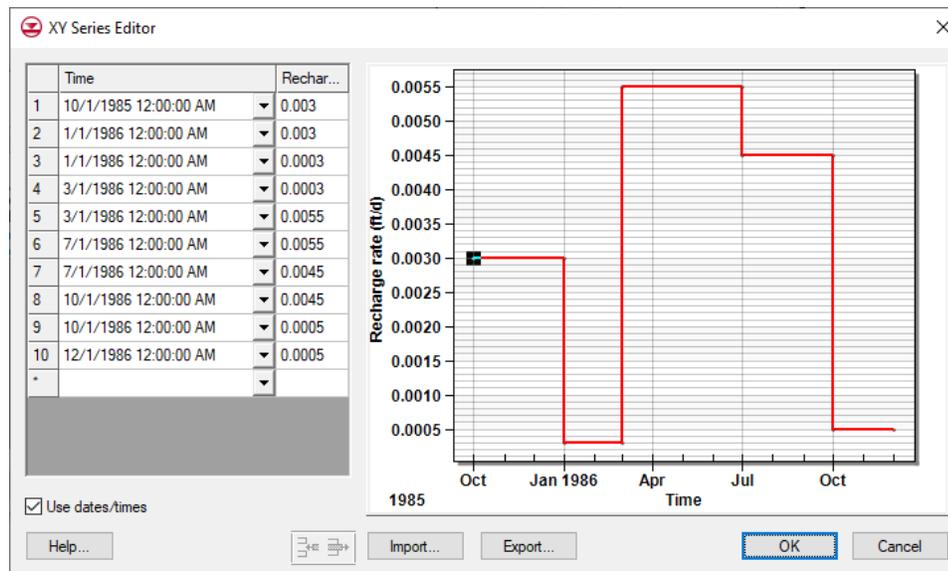

Figure 6 XY Series Editor showing recharge rate for zone 3
11. Click the  button in the *Recharge rate* column to open the *XY Series Editor*. A time series curve of the imported data will appear which should match Figure 6.